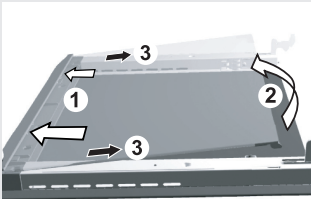

figure 1
- Hold the door glass pane by its lower edge. Pull it gently towards yourself and lift it slightly – but not too far – by a maximum of 10 mm, until the glass support wedge slips out of the groove (Figure 1).